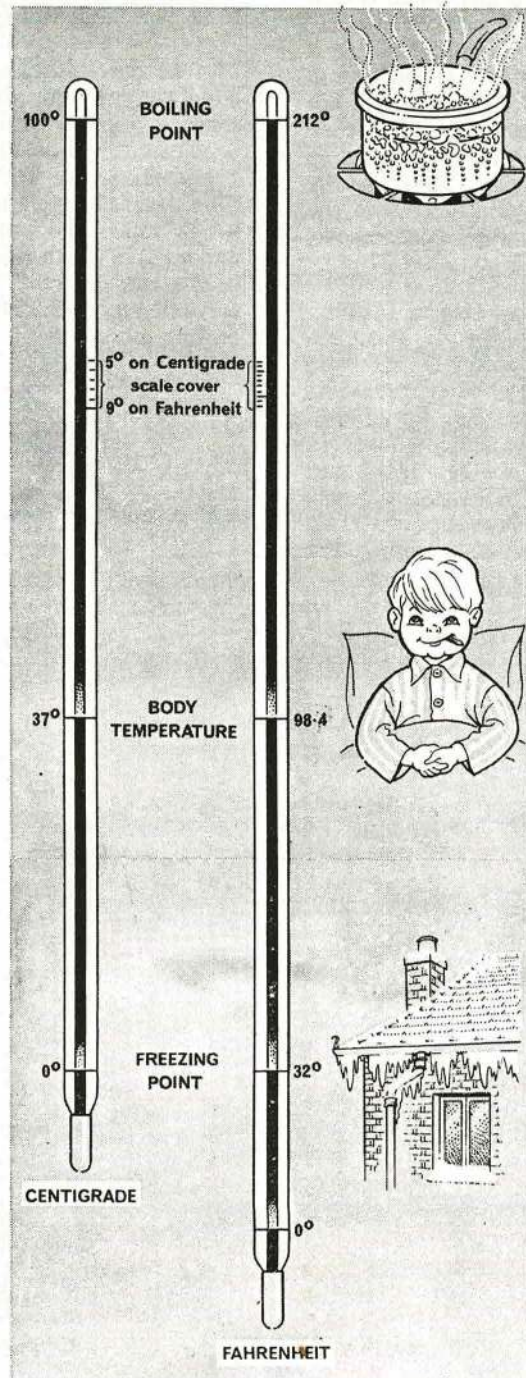

Fig. 3. TEMPERATURE
6. **Heat** is a form of energy which when given to a body raises its temperature and when taken from a body lowers its temperature. **Temperature** (Fig. 3) is the degree of hotness or coldness measured with respect to an arbitrary zero (Centigrade and Fahrenheit scales) or the **absolute zero**.